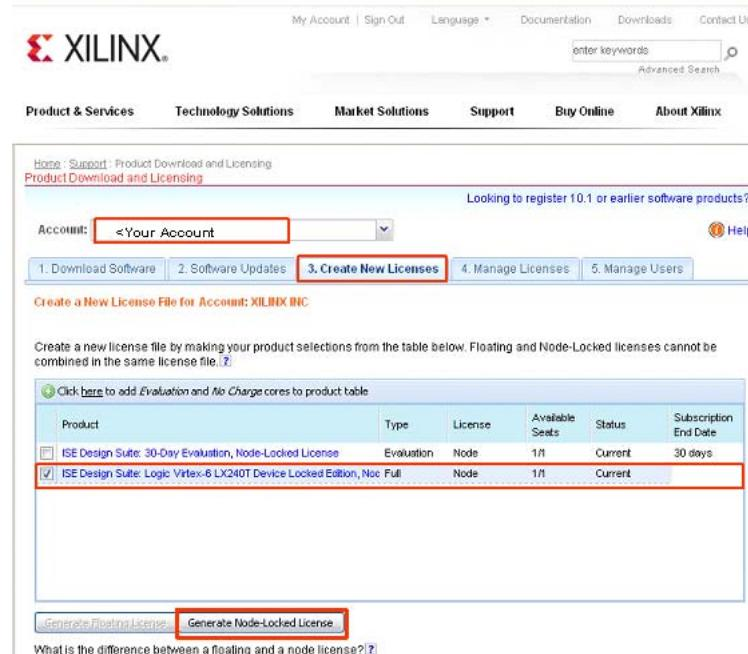

Figure 1-62: Create and Generate Your License
3. Select the **3. Create New Licenses** button, select the check box for the ISE Design Suite: Logic Virtex-6 LX240T Device Locked Edition, and click on the **Generate Node-Locked License** button (Figure 1-62)